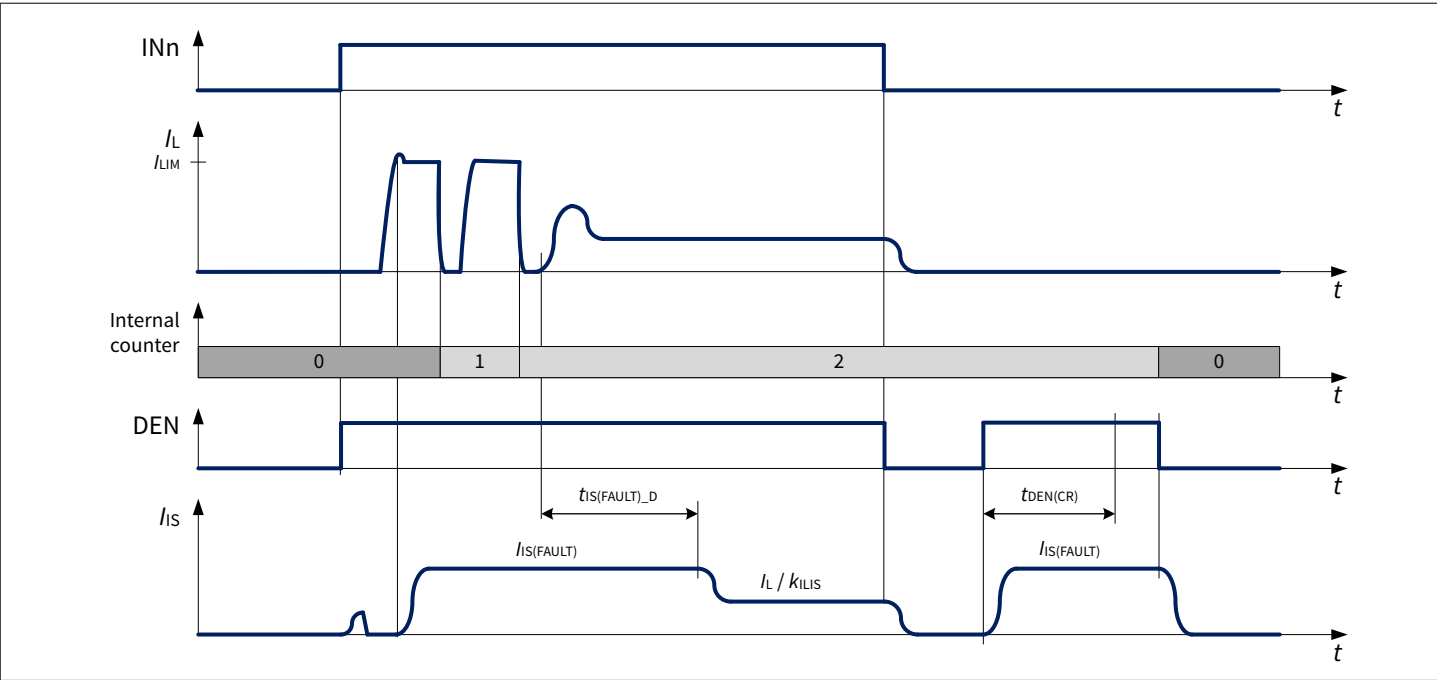

Figure 28 $I_{IS}(FAULT)$ at load switching
- If the channel is ON and the number of restarts is less than “ $n_{RESTART(CR),TYP}$ ”, the current $I_{IS(FAULT)}$ is provided for a time $t_{IS(FAULT)_D}$ after the channel is allowed to restart, and thereafter $I_{IS} = I_L / k_{ILIS}$ (as shown in Figure 28). During a restart cycle the current $I_{IS(FAULT)}$ is provided each time the channel diagnosis is checked.